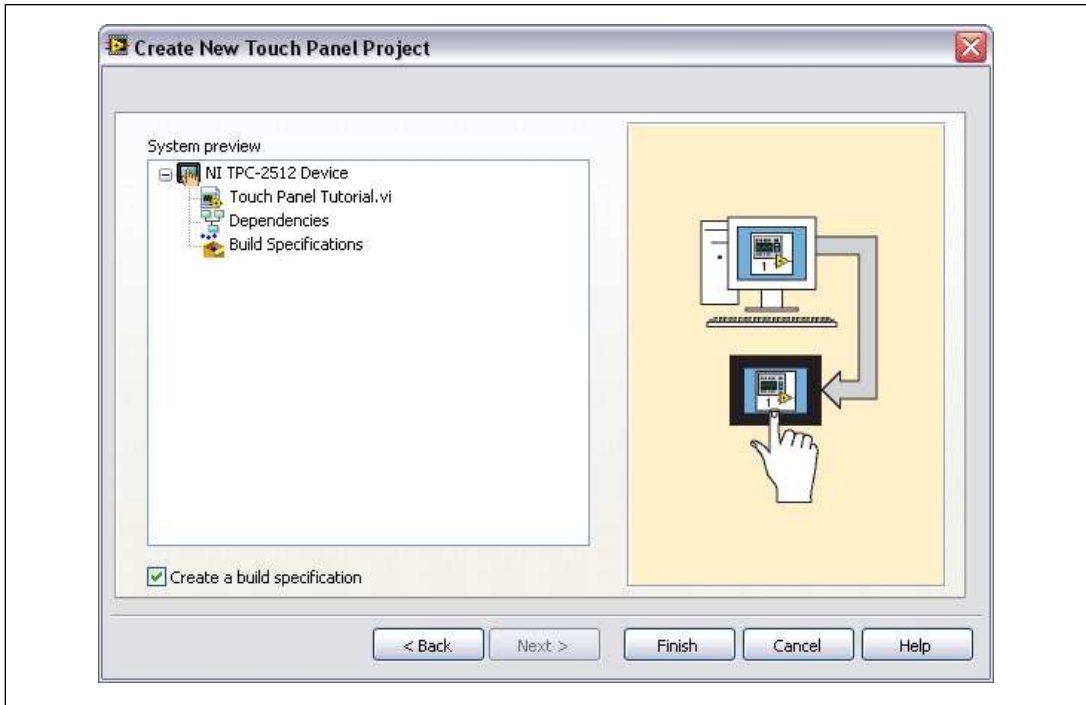

Figure 14. Previewing the Project
8. The **System preview** page, shown in Figure 14, shows a preview of the project the wizard creates when you click the **Finish** button. Notice the checkmark in the **Create a build specification** checkbox. This checkmark indicates you want to create a build specification immediately after you create the project. Refer to the Creating the Build Specification section for more information about creating a build specification.
Because the **Create a build specification** checkbox contains a checkmark as shown in Figure 14, the **Application Properties** dialog box opens when you click the **Finish** button.